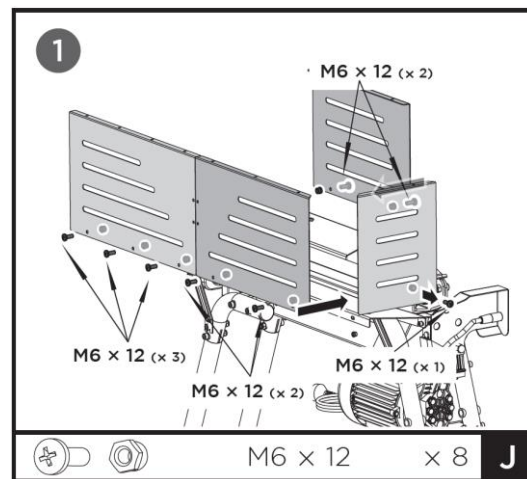

Fig. 10
1. Secure the front guard plate (q), left guard plate (r), and the two rear guard plates (o & p) to the log tray and bottom plate using M6x12 bolts and nuts (J). See Fig. 10.